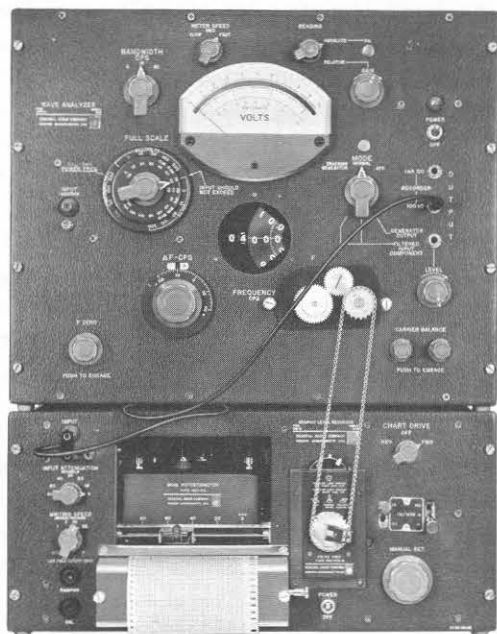

Figure 3.3. Type 1910-A Recording Wave Analyzer consisting of the Type 1900-A Wave Analyzer and the recorder.
3.4.4 OPERATION WITH TYPE 1900-A WAVE ANALYZER. The Type 1910-A Recording Wave Analyzer (Figure 3.3) consists of the Type 1900-A Wave Analyzer and the Type 1521-B Graphic Level Recorder. This combination makes possible the automatic recording of spectra in the frequency range of 20 to 50,000 cps. Unlike the sound analyzers, the wave analyzer offers a choice of three